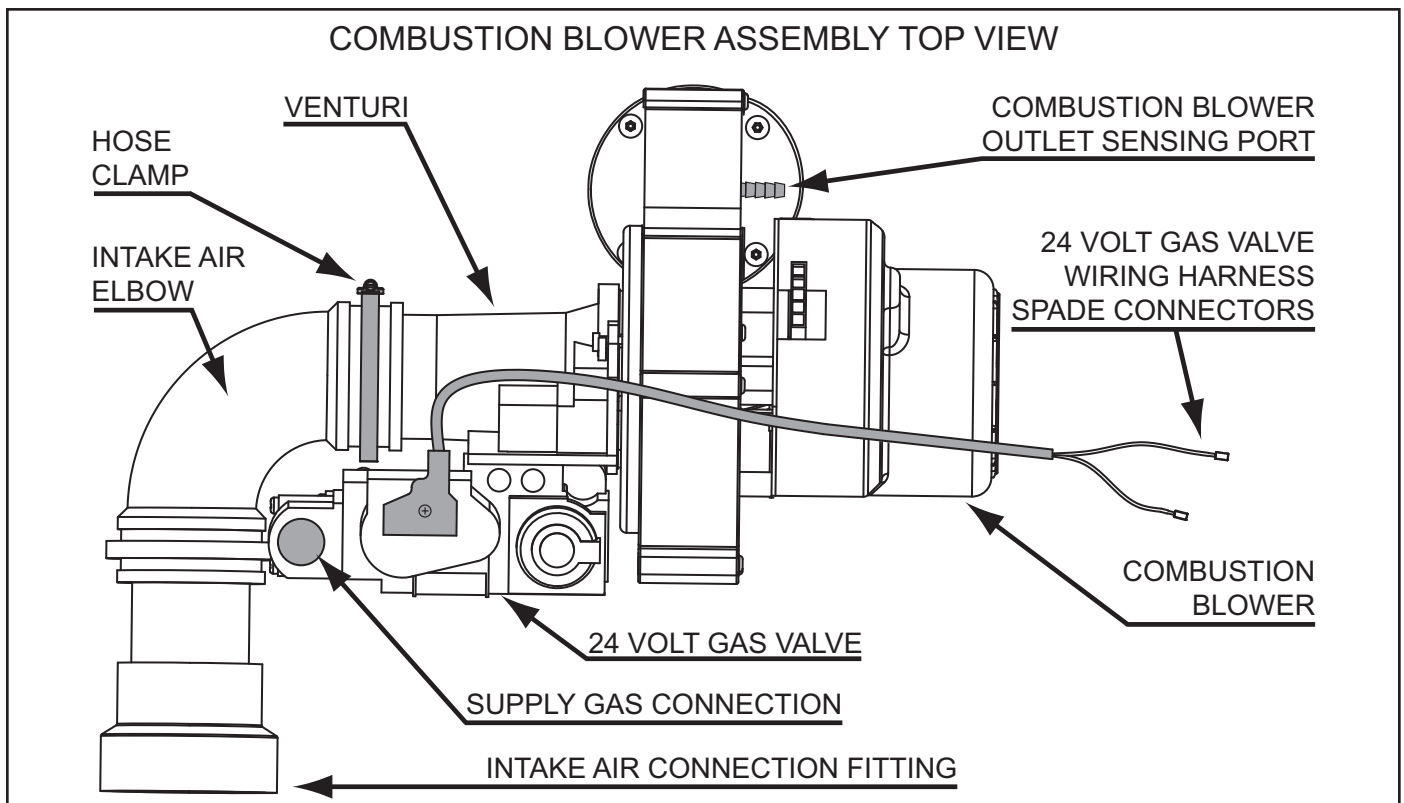

Figure 14
6. Disconnect the 24 Volt power wires to the 24 Volt Gas Valve at the two spade connectors in the wiring harness to the valve, see Figure 14 below.
7. Disconnect the Blower Prover switch sensing tube from the Combustion Blower outlet sensing port, see Figure 14 below.
10. If the water heater has been installed in a Direct Vent configuration, disconnect the intake air pipe at the intake air connection on the water heater, see Figure 14 below.
11. Loosen the hose clamp closest to the Venturi on the Intake Air Elbow and remove the Intake Air Elbow and Intake Air Connection fitting as assembled unit, see Figure 14 below.